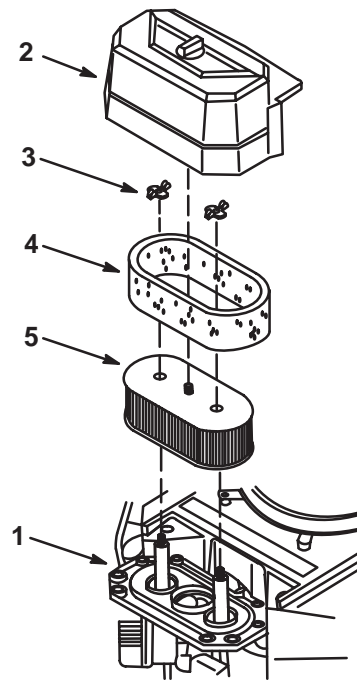

Figure 32
3. Clean around the air cleaner to prevent dirt from getting into the engine and causing damage (Fig. 32).
4. Remove the air cleaner cover (Fig. 32).
5. Unscrew the 2 wing nuts and remove the air cleaner assembly (Fig. 32).
6. **Carefully** pull the foam element off the paper element (Fig. 32).
1. Lightly tap the element on a flat surface to remove dust and dirt (Fig. 32).
1. Carefully slide the foam element onto the paper air cleaner element (Fig. 32).
2. Place the air cleaner assembly onto the air cleaner base and secure it with the nut (Fig. 32).
3. Install the air cleaner cover and secure the retaining locks (Fig. 32).